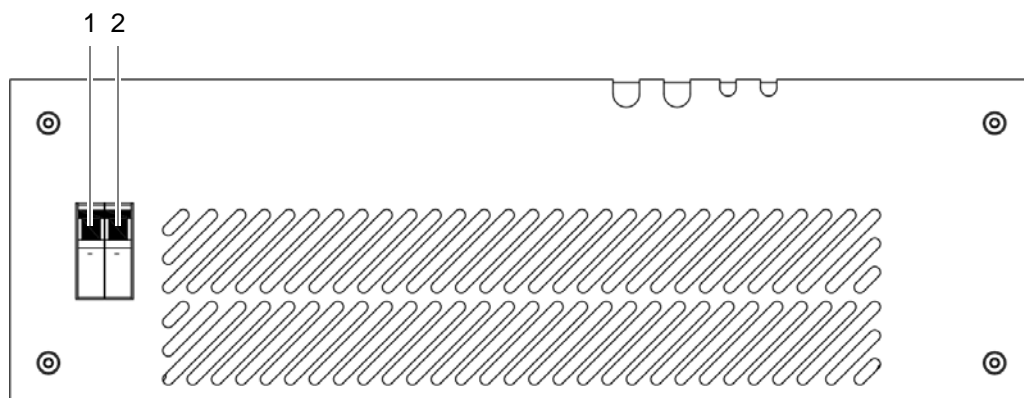

Figure 8.1 On/off switch
1. Switch off the voltage supply by flipping down the On/Off switch; refer to Figure 8.1.